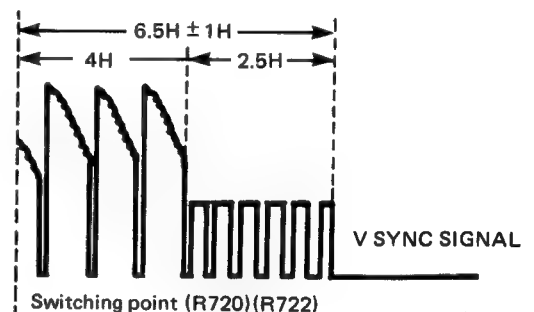

Figure 90.
3. Adjust R720 so that the output of CH-1 rises at $6.5 \pm 1H$ ahead of V-sync signal output of CH-2. See Fig. 90.
3. Adjust R722 so that the output of CH-1 rises at $6.5H \pm 1H$ ahead of V-sync signal output of CH-2. See Fig. 90.